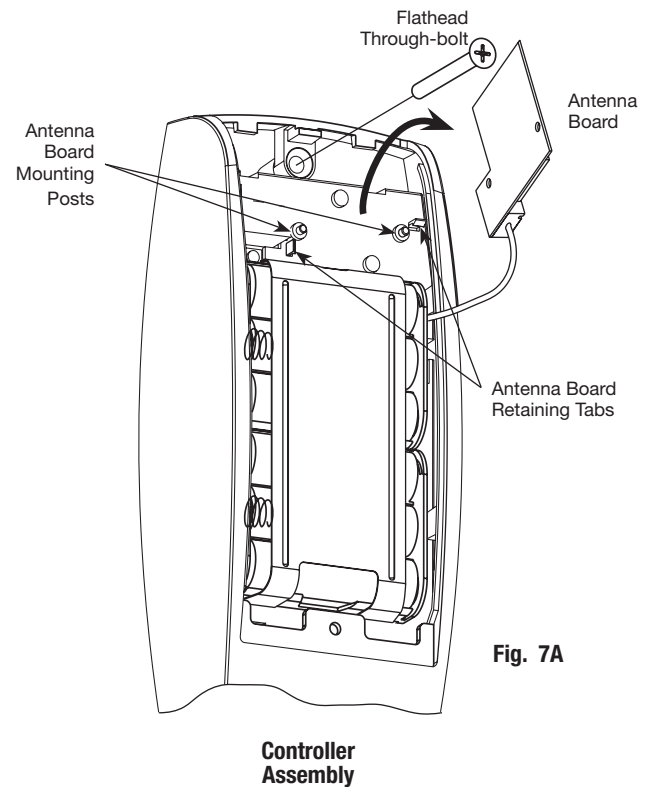

Fig. 7A
1. Attach the reader assembly ribbon cable into the back of the controller assembly (side that faces towards the door when mounted (Fig. 7A).
2. Attach the ground wire to the bottom of the controller assembly (E1, Fig. 7A).
The antenna board must be carefully moved to access the upper through-bolt screw. Care should be taken to prevent damage to the antenna retaining tabs during this process (Fig. 7A).